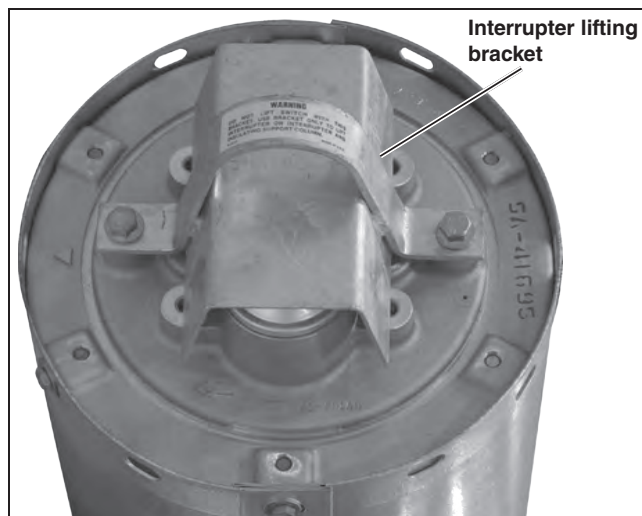

Figure 17. Remove the interrupter lifting bracket.
- (a) Remove the interrupter lifting bracket and associated ½-inch stainless steel hardware from on top of the interrupter. See Figure 17. Discard the lifting bracket but retain the hardware.